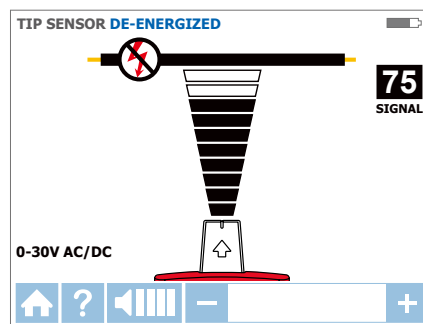

Figure 3.2c: Receiver showing signal detected in De-energized TIP SENSOR mode
4. Scan target area with Tip Sensor to find highest signal level (Figure 3.2c). While tracing, periodically adjust sensitivity to keep signal strength near 75. Increase or decrease sensitivity by pressing + or – on the keypad. If signal is too strong for precise locating, change transmitter to LOW mode.